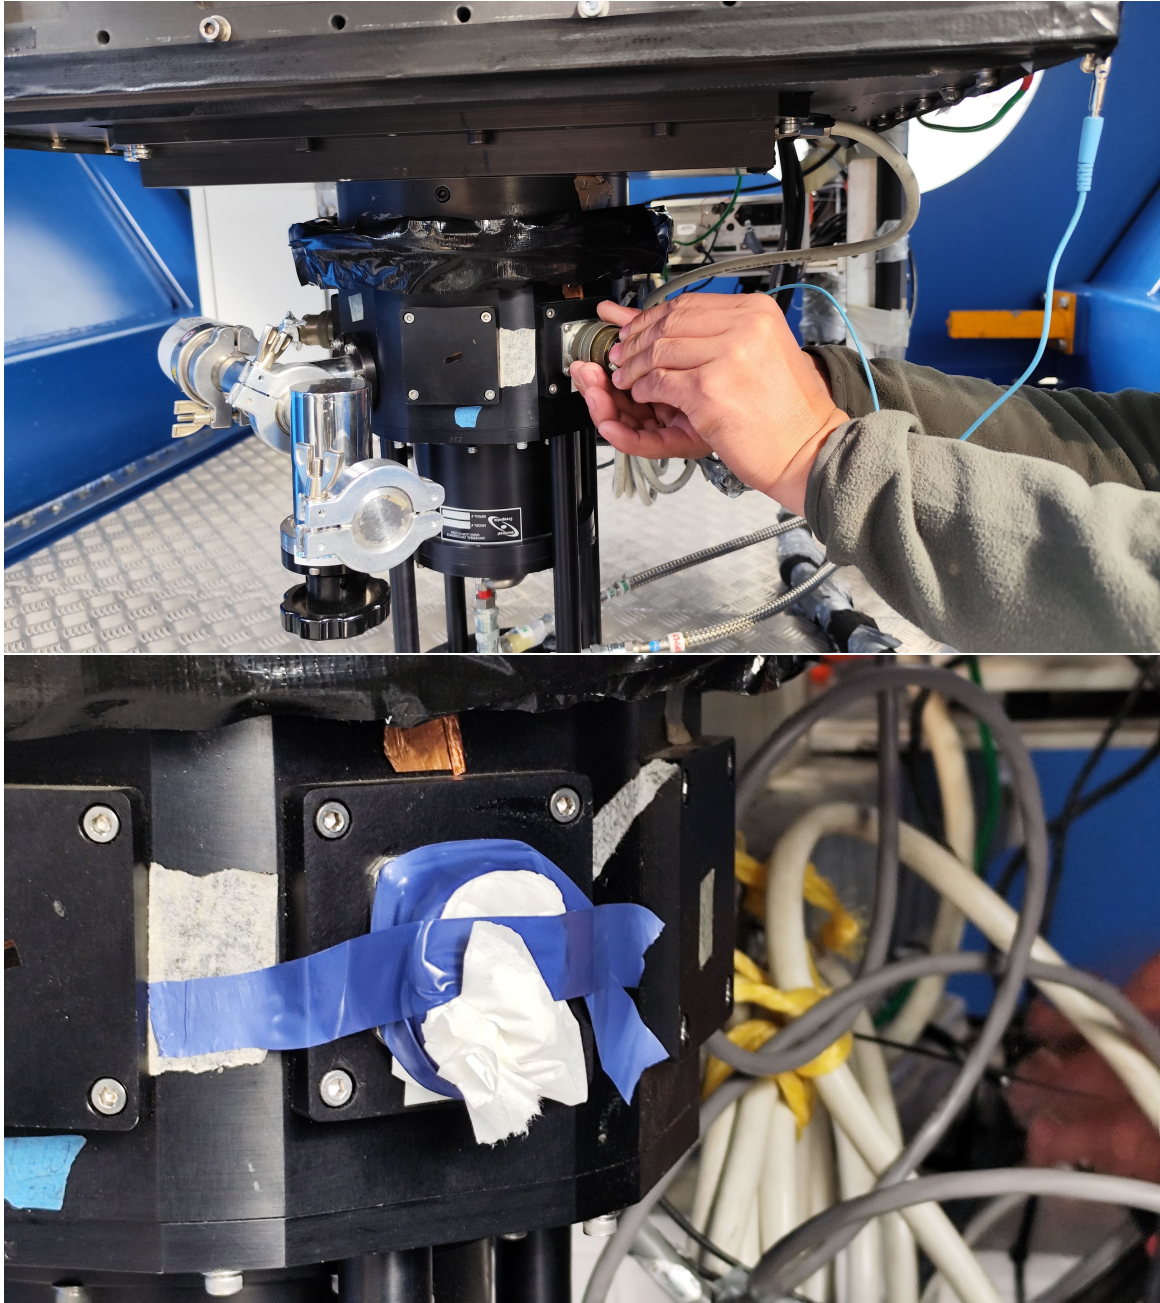

Figure 3: Top to bottom: Removing the wires connected to the CCD. Cover the ports with tissue paper.
9. There are two read-out ports, 1 connected to the temperature controller, 1 for the vacuum, and 1 for shutter control. Remove the wires from all these ports and then cover them with tissue paper as shown in Fig. 3.